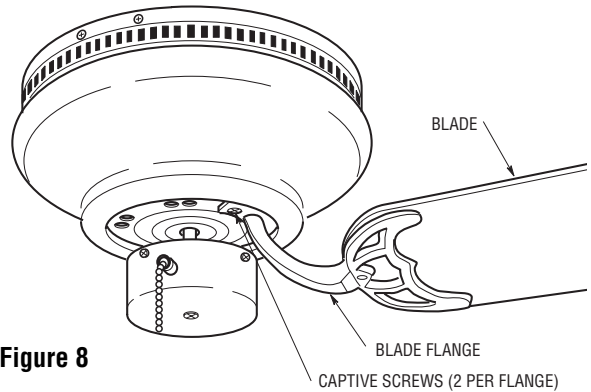

Figure 8
- 3. Attach one blade assembly to the motor using the captive screw provided for each flange (Figure 8). Make sure the screws are tightened securely. Repeat this procedure for the other four blade assemblies.